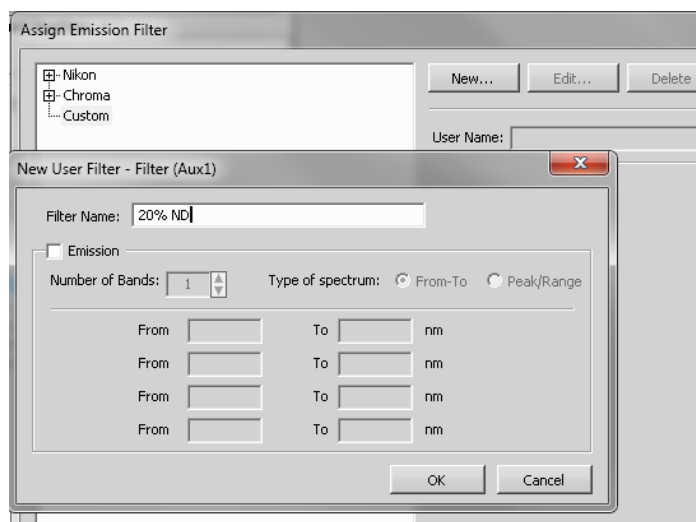

Figure 10
6. Select the “Custom” filter menu on the right side, and click the NEW button to add a new filter. See figure 10 below on an example name for a filter.